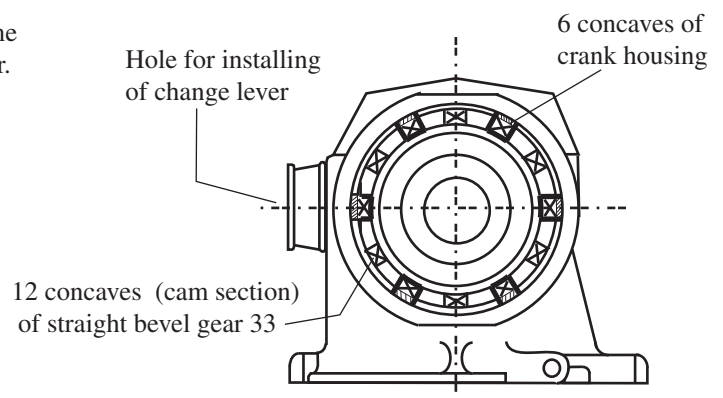

Fig.22
* Adjust 12 concaves of straight bevel gear 33 to 6 concaves of crank housing by turning straight bevel gear 33. (see Fig.22)
(see Fig.22 and 23)